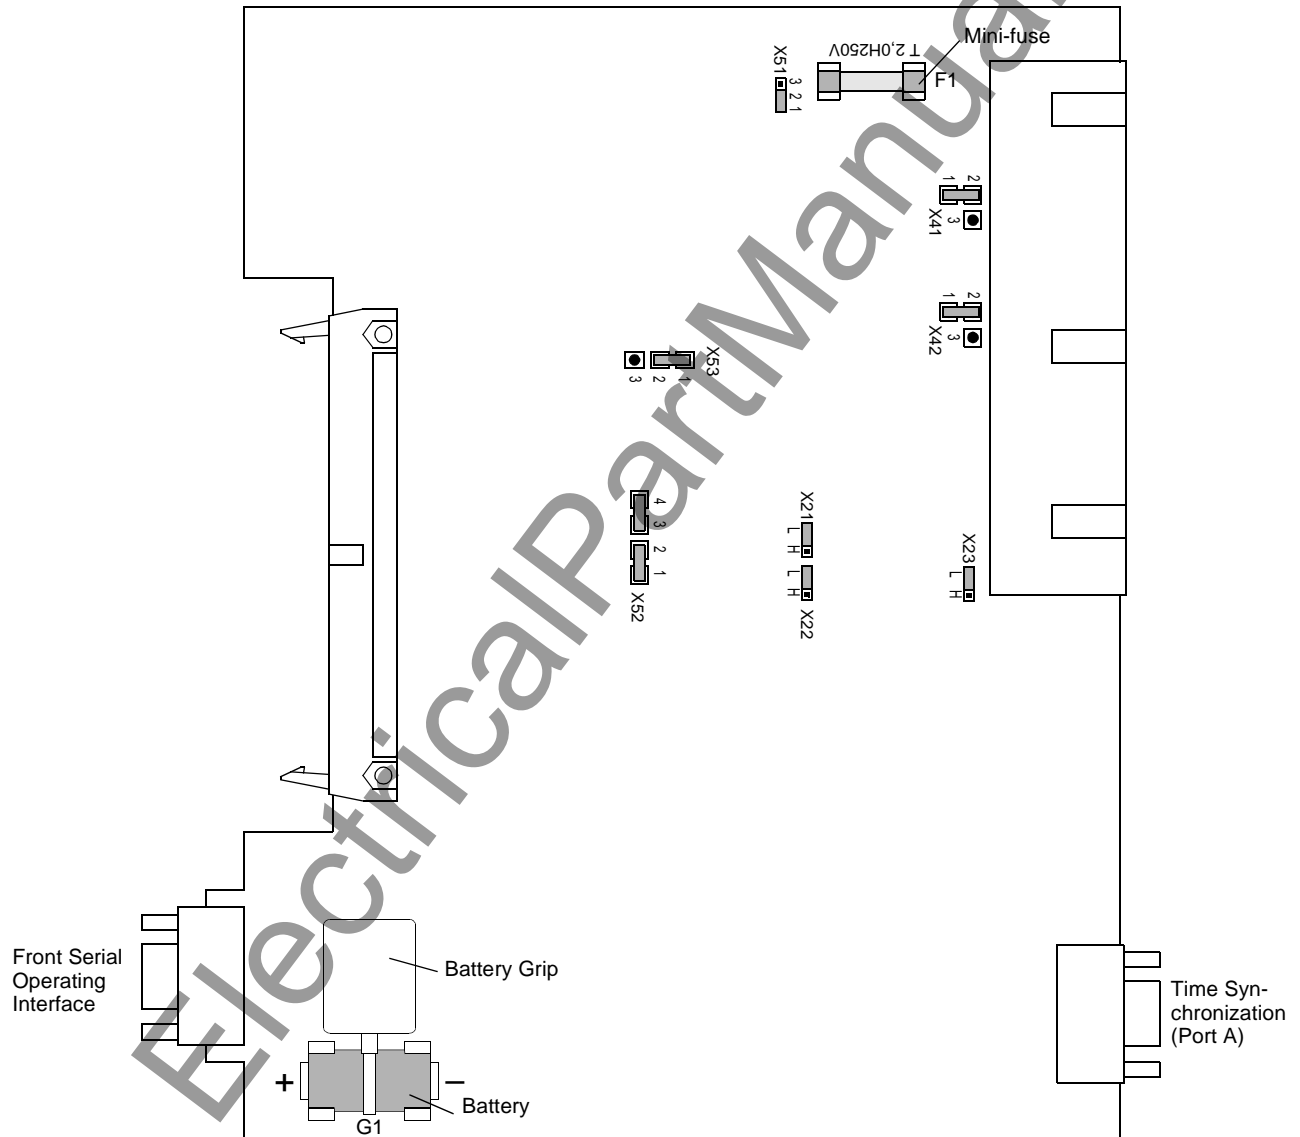

Figure 3-6 Processor board A-CPU (without interface modules) with representation of the jumper settings required for the module configuration
Spare parts may be the backup battery that maintains the data in the battery-buffered RAM when the voltage supply fails, and the miniature fuse of the internal power supply. Their physical location is shown in Figure 3-6. The ratings of the fuse are printed on the module next to the fuse itself. When exchanging the fuse, please observe the hints given in the System Manual (order no. E50417–H1176–C151) in Chapter „Maintenance“.
- ☐ Disconnect the ribbon-cable between the front cover and the A-CPU board (❶) at the cover end. To disconnect the cable, push up the top latch of the plug connector and push down the bottom latch of the plug connector. Carefully set aside the front cover.
- ☐ Disconnect the ribbon-cables between the A-CPU board (❶) and the A-I/O-3 board (❷).
- ☐ Check the jumpers according to Figures 3-6 and 3-7 and the following notes. Change or remove the jumpers as necessary.
The design of a jumper setting for the processor board A-CPU is shown in Figure 3-6.